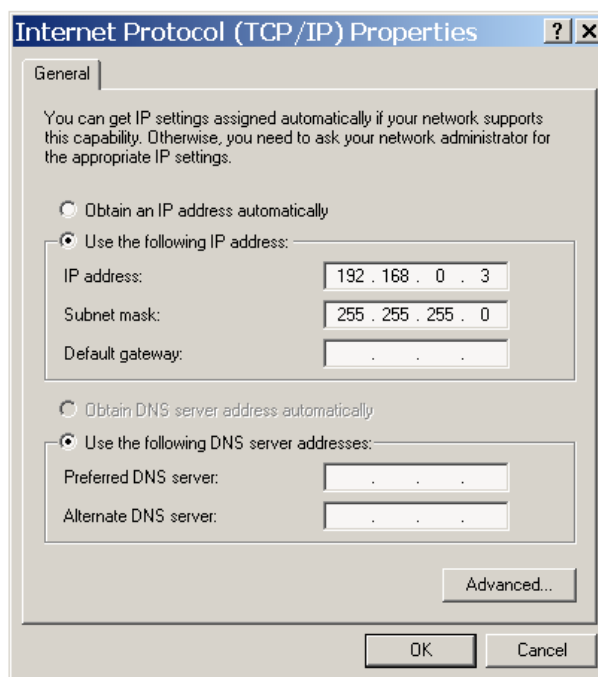

Figure A.2: TCP/IP Priorities Dialogue Box
4. Enter the information shown above in **Figure A.2** and click “OK” to accept the changes.
6. Continuing from item 4 and **Figure A.2**, on page 13, enter the required information.